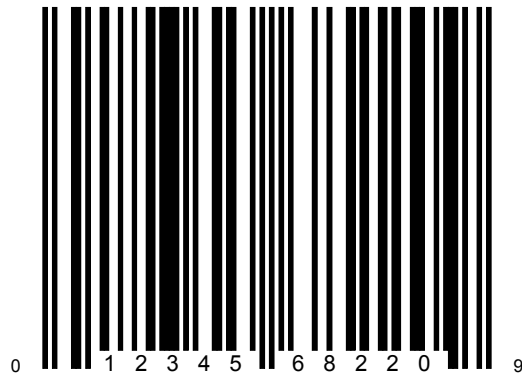

Fig.2 Calibration label
4. While depressing the calibration button through bolt screw hole, scan the calibration label. (see Fig. 2)